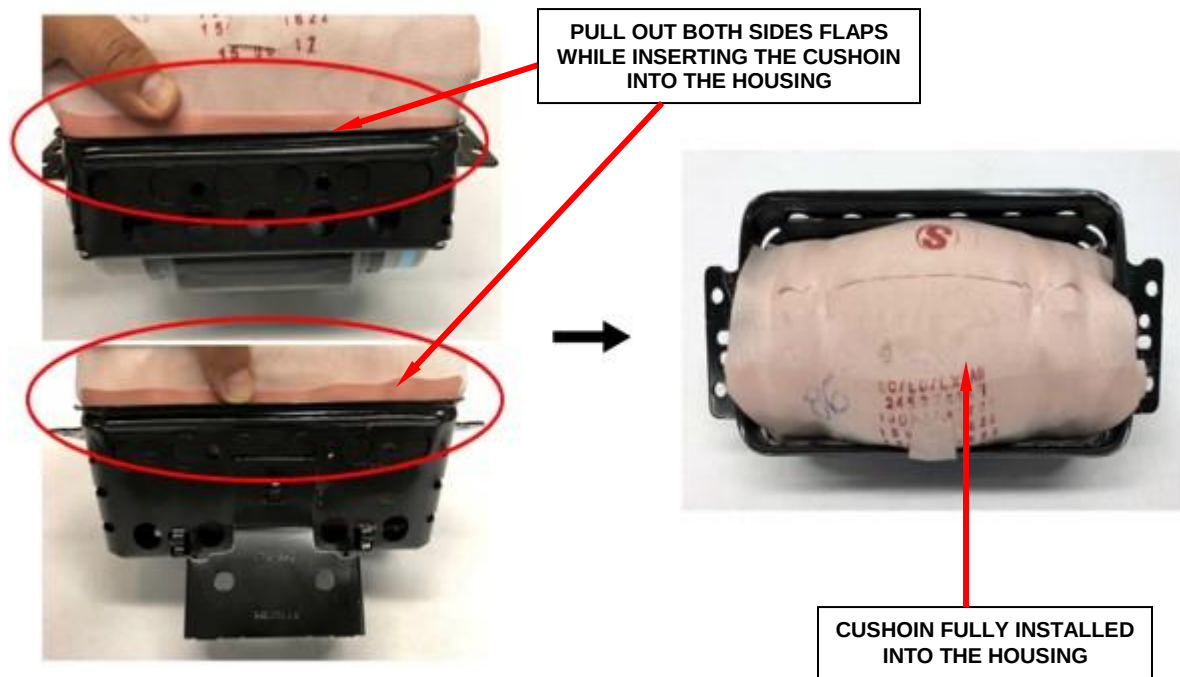

Figure 66 – Side Flaps Must Be Held Out
k. Insert the cushion, pulling out both side flaps (Figure 66).